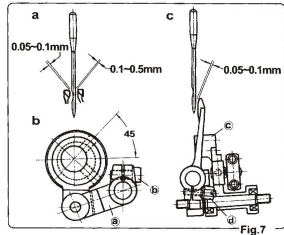

Fig. 7
Adjust the clearance between the needle and the looper to 0.05-0.1mm when the looper goes forward and passes the rear of the needle. To obtain the correct clearance, loosen the screw ⑥ of the looper rocker shaft arm ⑤ and incline ⑥ the looper rocker. Adjust the clearance of the needle and looper to 0.1-0.5mm when the looper moves forward to the right at the closest point to the needle (Fig. 7-a).
To facilitate the adjustment, first adjust the looper avoid eccentric cam so that its screw is 45° to center of the main shaft (Fig. 7-b).
Loosen set screw ⑧ and adjust the clearance of the needle and needle retainer to 0.05-0.1mm as the needle goes up (Fig. 7-c).